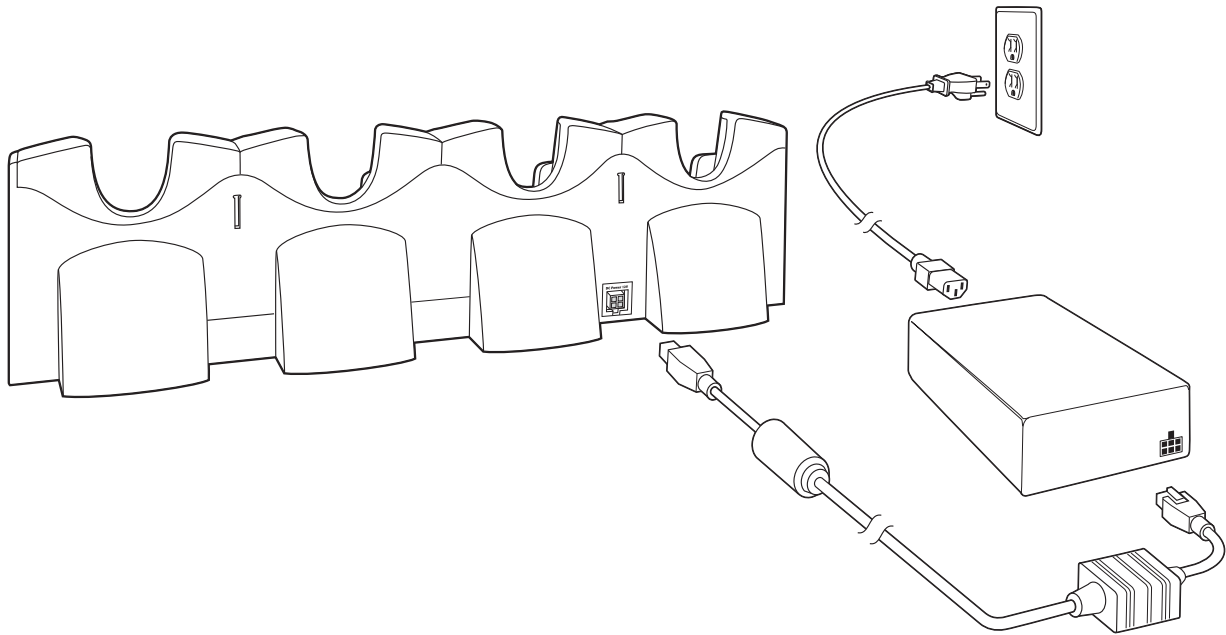

Figure 2-10 *Four Slot Charge Only Cradle Connection*
5. Connect power (see Figure 2-10 on page 2-10). The power supply should be located in the power supply well.